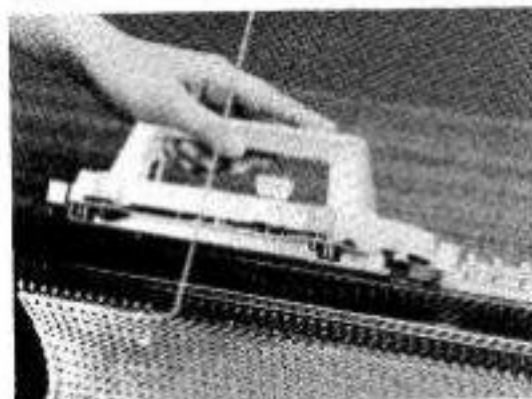

Fig.66
- Lift front of the carriage clear of front runner rail and needles. (Fig.66)